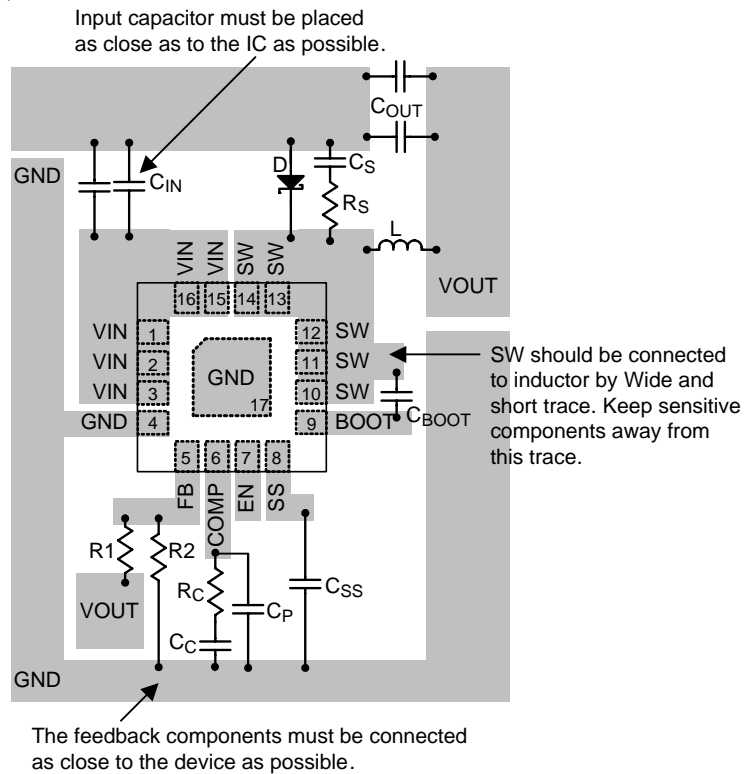
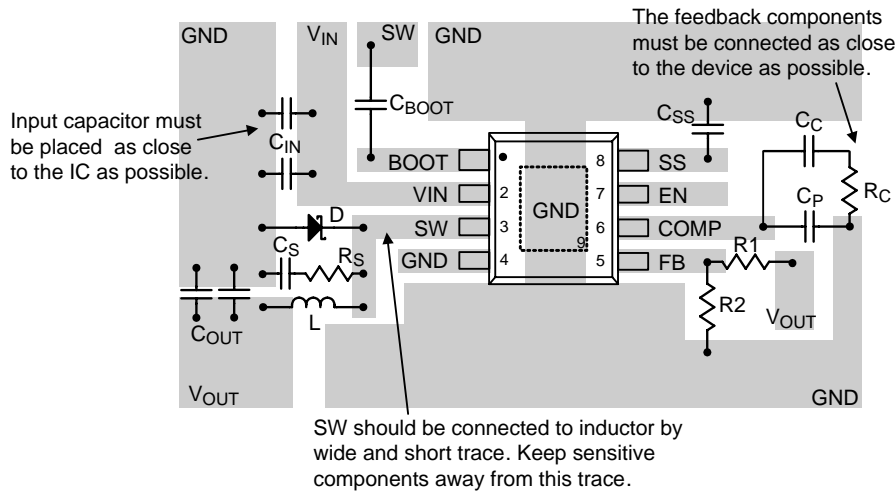

Figure 9. PCB Layout Guide for WQFN Package
Figure 10. PCB Layout Guide for PSOP-8 Package
- ▶ Examples of PCB layout guide are shown in Figure 9 and Figure 10 for reference.